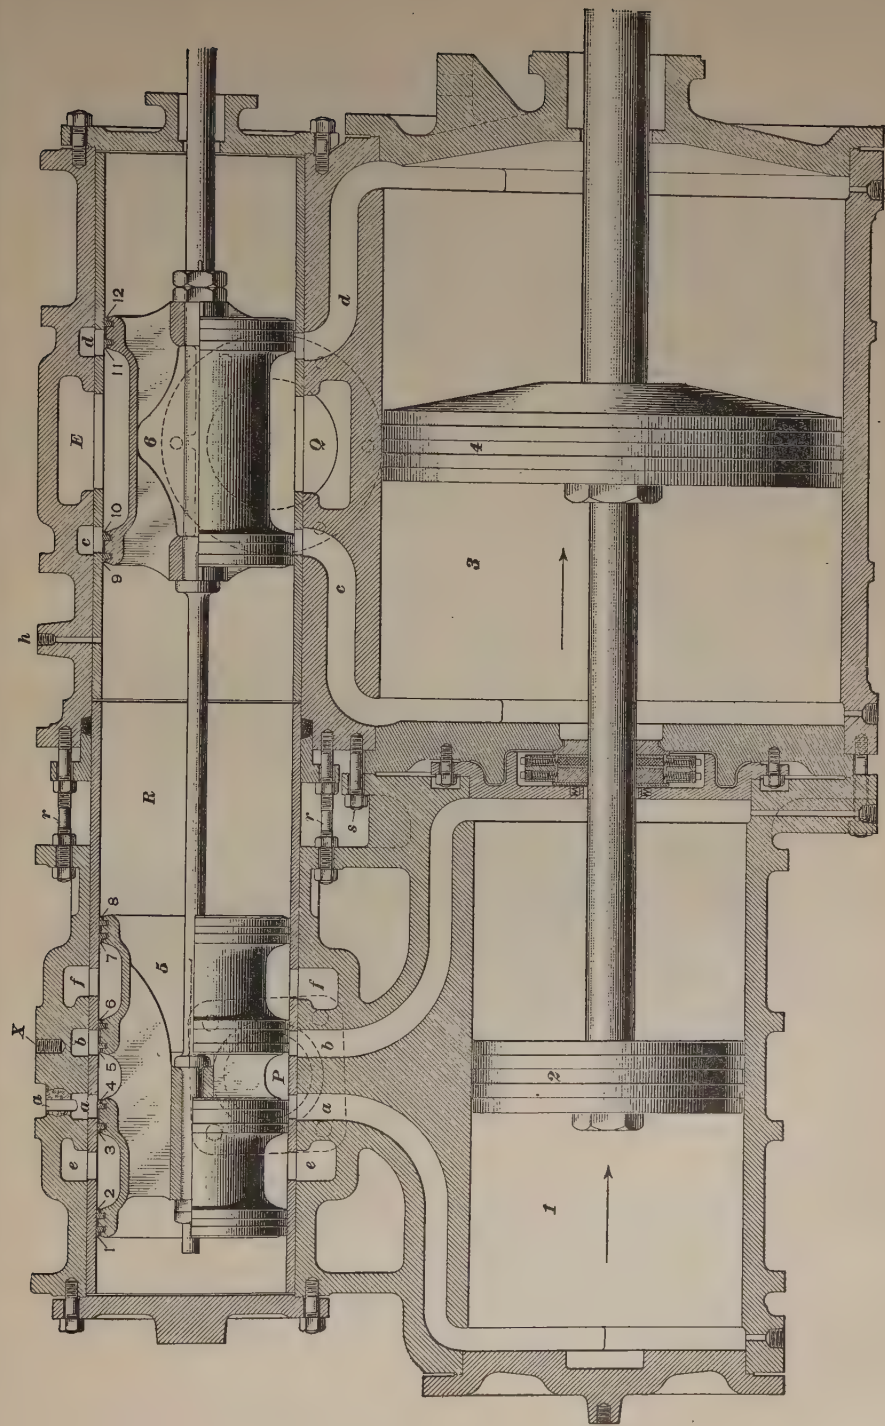

FIG. 18
27. A sectional view of the left-side cylinders and valves is given in Fig. 18, in which 1 and 2 are respectively the high-pressure cylinder and piston; 3 and 4, the low-pressure cylinder and piston; and 5 and 6, the high-pressure and low-pressure valves. Steam is conducted to the high-pressure valve chest through the steam pipe *P* (indicated by the dotted circles), which divides into branches that connects with the steam passages *ef* surrounding the valve bushing. These passages, therefore, are the valve-chest inlets for the high-pressure steam. The final exhaust occurs through the exhaust outlet *Q* (indicated by dotted circles in the low-pressure valve chest), which connects directly with the exhaust passage *E* surrounding the valve bushing.
The cavity *G* is the admission cavity for the steam passage *a*, Fig. 18, while *H* is the admission cavity for the steam passage *b*. Neither cavity has anything to do with exhausting the steam from the cylinder; that is accomplished by moving the valve so that the space *K* is directly above
the steam passage of the end of the cylinder to be exhausted. In this position, the steam passes through K into the hollow of the valve and thence to the valve chamber R , Fig. 18, which acts as a receiver for the low-pressure cylinder. It will be observed that there is no exhaust cavity in the valve seat of the high-pressure valve. The low-pressure valve 6 is an external-admission balanced piston valve.
40. Two Heavy Exhausts.—Two heavy exhausts from either side indicate that there is a higher pressure in the receiver on the side from which the heavy exhaust occurs than there should be. This may be due: To the packing rings 1 and 2 or 7 and 8, Fig. 18, leaking or being broken, allowing high-pressure steam to blow into the receiver direct; to the ring 3 or 6 being broken, allowing steam to blow into the high-pressure cylinder after cut-off has occurred, thus charging it with an extra volume of steam that is exhausted into the receiver and raises the pressure above what it should be; to the high-pressure piston packing rings being badly worn or broken, allowing high-pressure steam to escape by them into the receiver; or to a cracked bridge or loose valve bushing of the high-pressure valve. In the event, therefore, of two heavy exhausts occurring on either side of the engine, test that side to see which of the above defects is causing the trouble.
41. Two Light Exhausts.—Two light exhausts from either side of the engine indicate too little pressure in the receiver on that side. This may be due: To the rings 9 and 10 or 11 and 12, Fig. 18, being broken or leaking badly, allowing receiver steam to escape direct to the exhaust; to the low-pressure piston packing being worn or broken, allowing steam taken from the receiver to escape directly to the exhaust; or to a loose valve bushing or cracked bridge of the low-pressure valve.